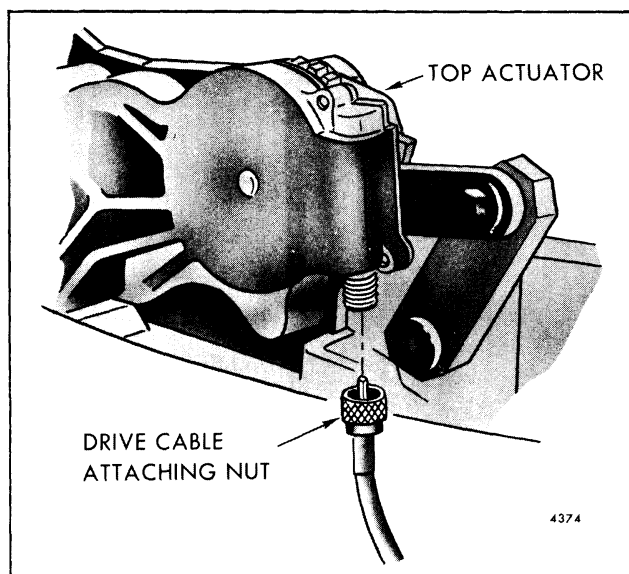

Fig. 8-67-Drive Cable To Top Actuator Attachment
3. Disconnect drive cable from actuator assembly (Fig. 8-67).
2. Disconnect drive cables at each top actuator (Fig. 8-67). Manually shake each side roof rail to stabilize in its proper position.